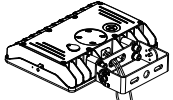

Figure 1
1. YOKE MOUNTING (YM)
Step 1: Pass the input wire of the fixture through the bracket(Figure 1);